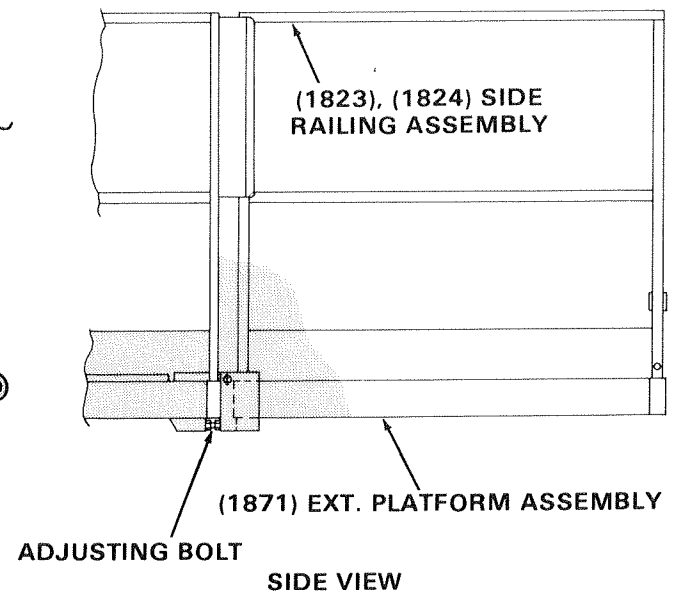

Figure 3. Adjusting Level of Extending Platform.
2. Adjust level of extending platform by turning adjusting bolts on main platform, Figure 3.